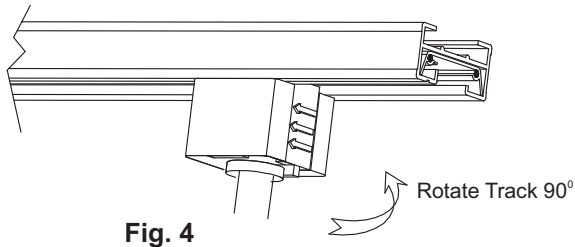

Fig. 4
4. Rotate the track adapter 90°. The arrows should point to the grooved side of the track (**Fig. 4**). Make sure the locking tab seats in the track slot.